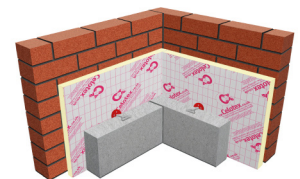
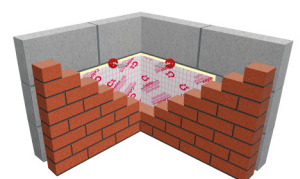

Fig. 1
Fig. 2
- At internal (see Fig.1) and external (see Fig.2) angles, ensure that the thickness of the board continues around the angle and that sufficient wall ties are used.